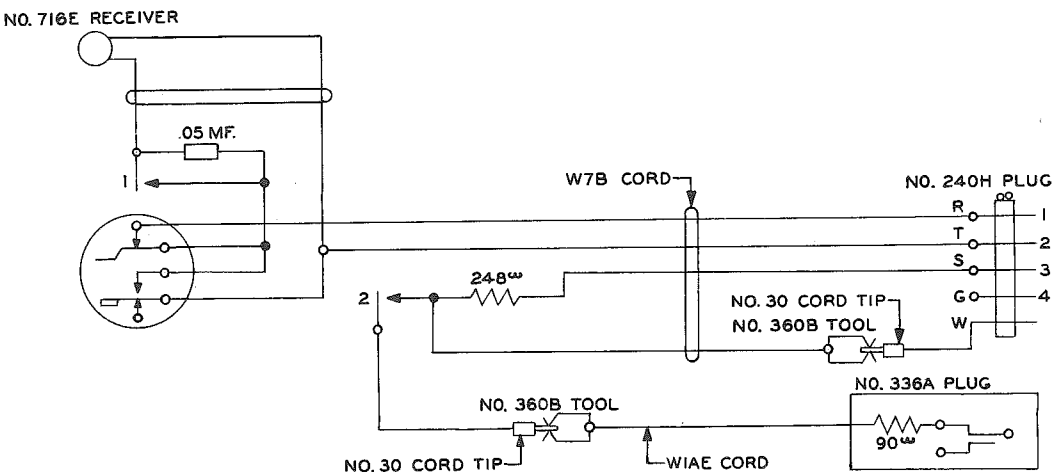

Fig. 3 - Schematic of No. 40C Test Set
- 3.01 A schematic of the circuit arrangement of the test set is shown in Fig. 3.